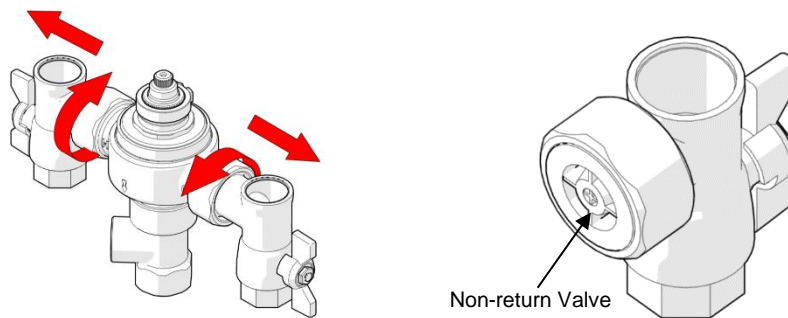

Figure 12
- a. Loosen the two unions of the inlet fittings and remove them from the valve body. The non-return valves are in the inlet fittings as shown in Figure 12.